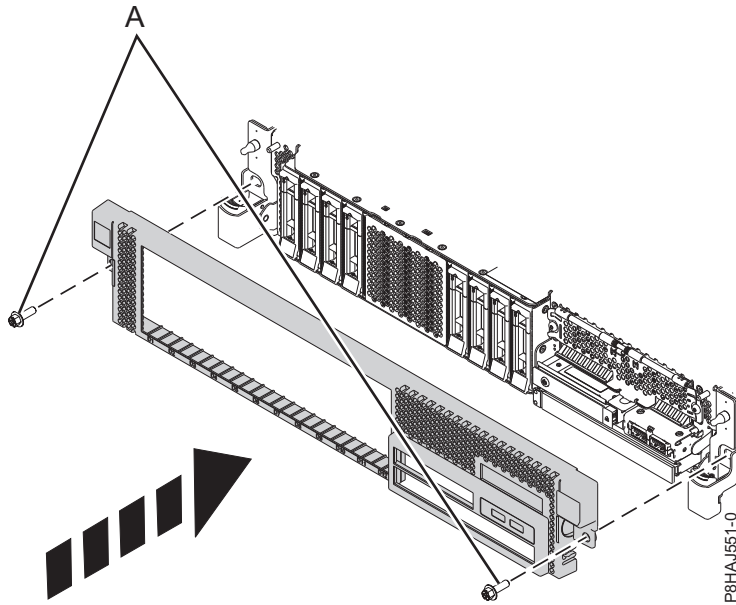

Figure 55. Installing the front cover
3. Close the release latches by pushing in the direction shown in Figure 55 on page 69. The cover snaps into place and has an indentation where you can hold onto it more easily.
4. Replace the shipping screws (A).